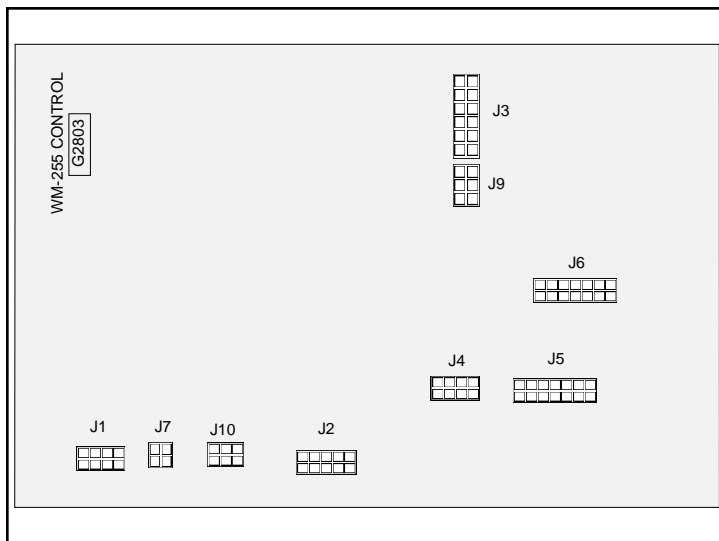

FIGURE F.9 - Wiring Harness and Molex Plug Locations.
3. Disconnect all wiring harness plugs and Molex Plugs connected to the Control Board. See Figure F.9.